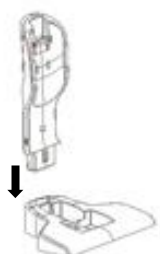
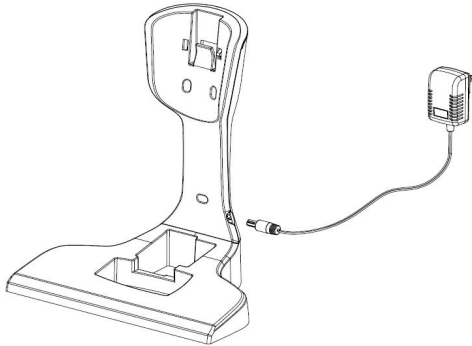

Fig.3-3
Fig. 5-1a
Insert the charger into charger stand (see Fig. 3-3 and Fig.3-4), after it, use the screws attached to fix the whole unit onto the wall or put in on a horizontal surface.
5.1 Fix the charger by following Fig.3-3, insert the small end of adaptor into the charger stand by following Fig. 5-1a.